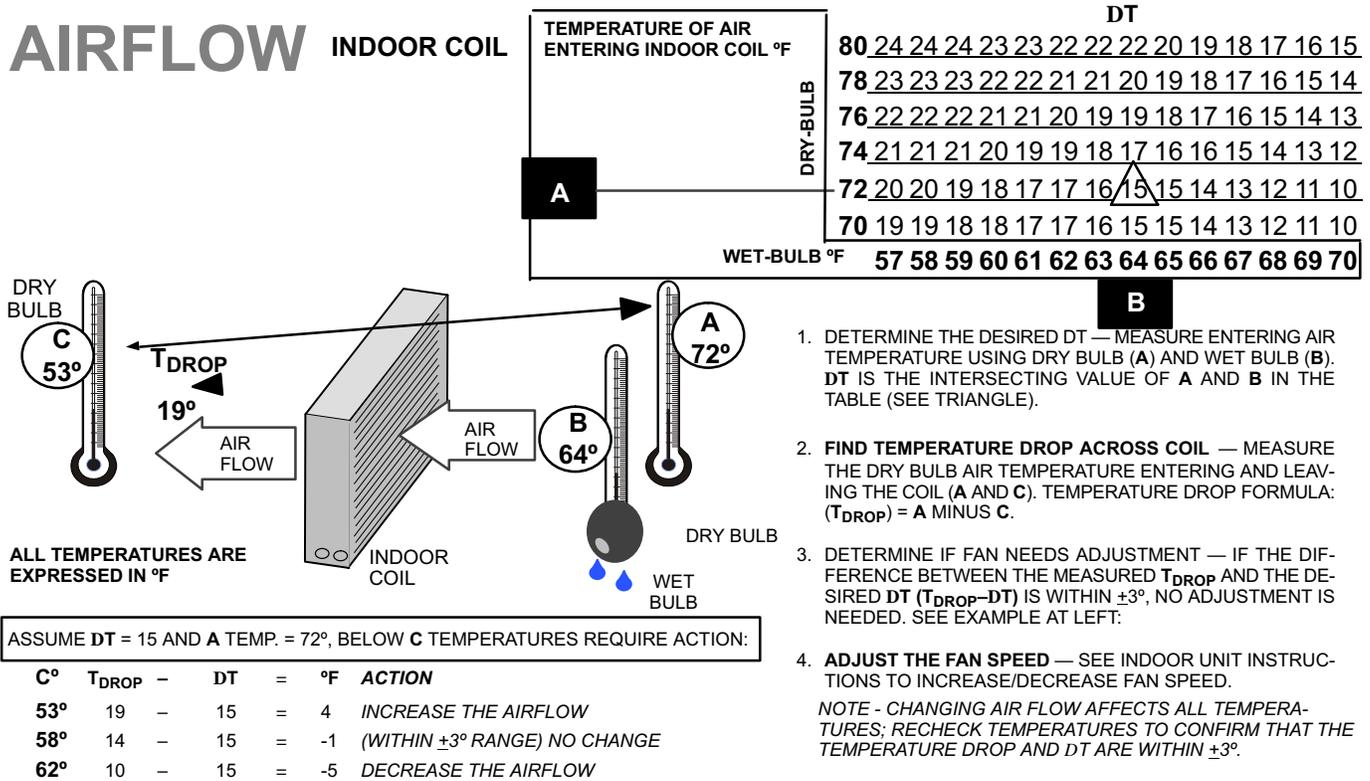

Figure 55. Checking Indoor Airflow over Evaporator Coil using Delta-T Chart
2. Check and adjust indoor airflow as described in figure 55.
Check airflow using the Delta-T (DT) process using the illustration in figure 55.